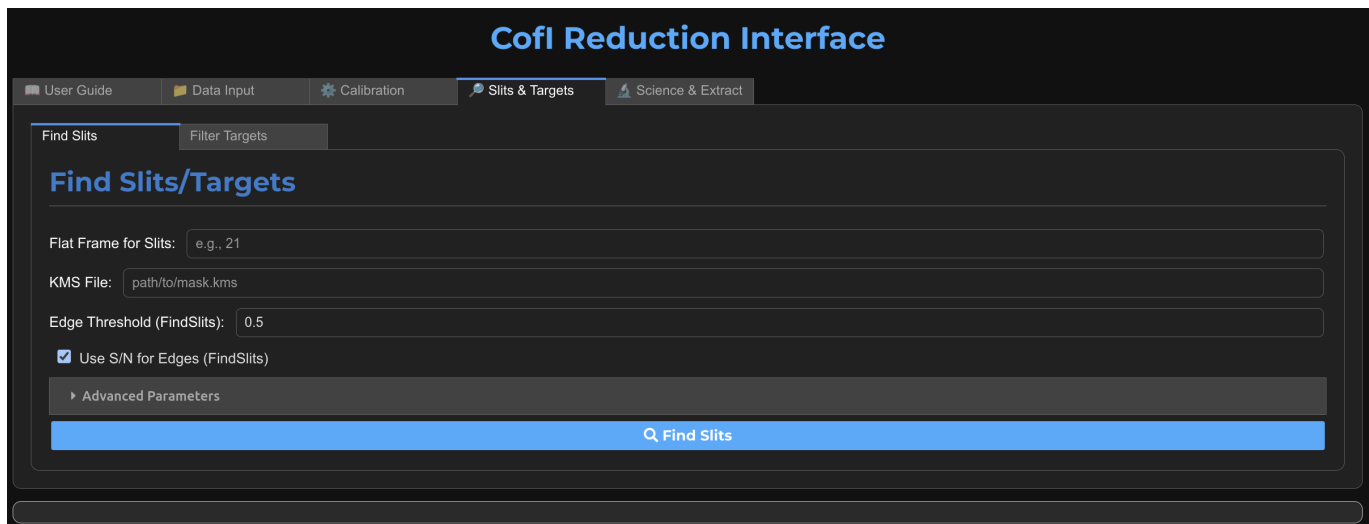

Figure 12: Finding slits
- **Purpose:** To identify the physical location of the slits on the CCD and correlate them with the target information from a KOSMOS slit mask ('.kms') file (see Figure 12).